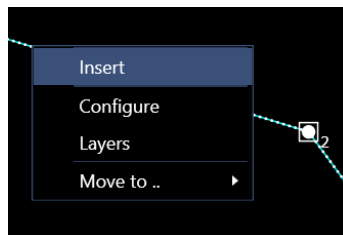

FIGURE 9-24 PIPELINES – MAP EDIT - INSERT NODE POP-UP
4. Right clicking on the line while in Editing Mode will display a context menu with an Insert Node option. Click this option to insert a new node at the mouse coordinates (see Figure 9-24)